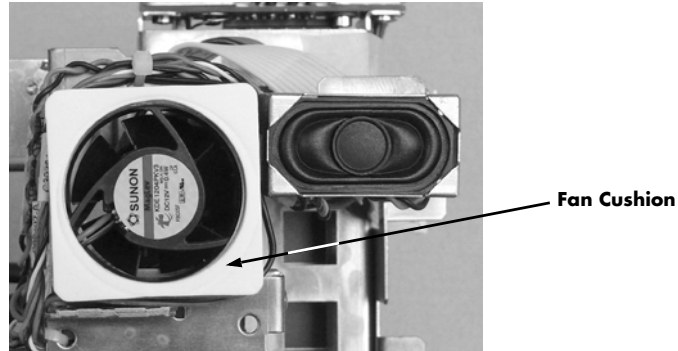

FIGURE 4-22 Remove the Fan Cushion.
2. Remove the fan cushion (as shown in Figure 4-22).